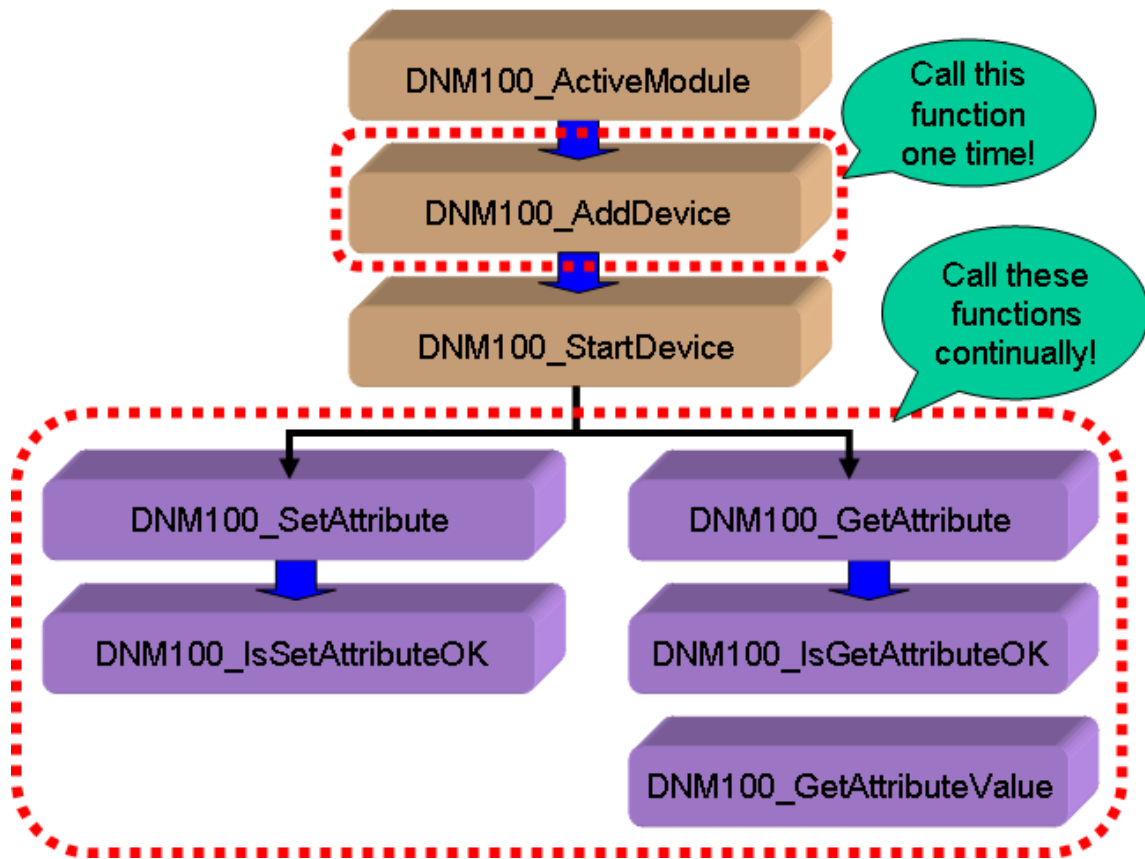

Figure 3.8 “SetAttribute” and “GetAttribute” Diagram
The users can set or get DeviceNet device's property via DeviceNet network. The PISO-DNM100(U) provides these functions to set or get the properties of the remote devices easily. The steps are shown in Figure 3.8.